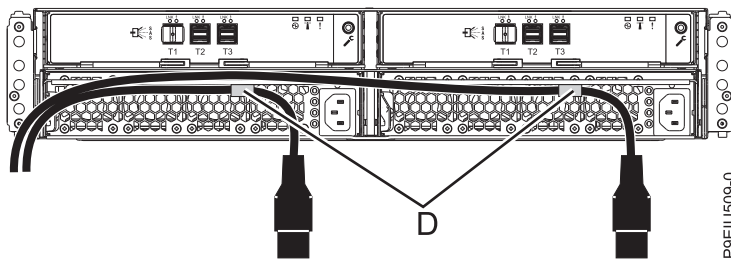

Figure 31. Routing the power cords through the cord retention brackets
3. Route the power cords through the power cord retention brackets (**D**) for strain relief, as shown in Figure 31.